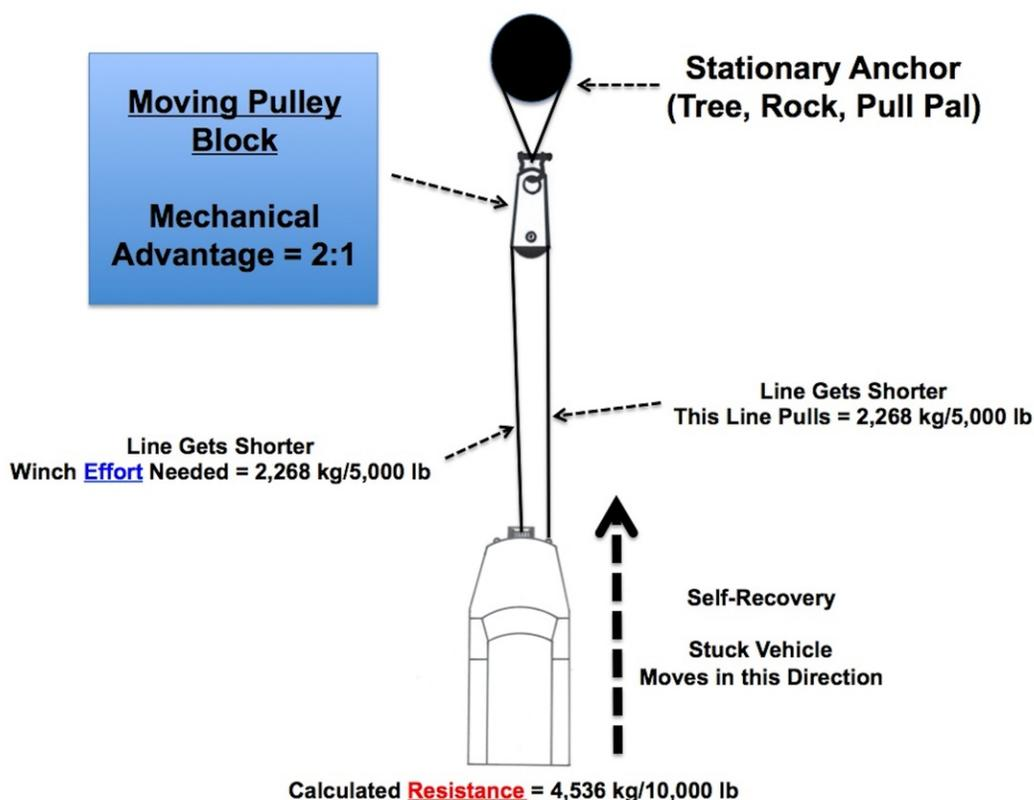

FIGURE 1
**Figure 1** shows a typical double line winch pull. This simple rigging set-up is often used by recreational off-roaders to get unstuck and self-recover. To determine the mechanical advantage of a simple, single-line winch-rigging set-up, you only have to:
In **Figure 1** the vehicle’s winch pulls the vehicle toward the stationary anchor, causing two lines to get shorter in the same direction. Another way of thinking is that two winch lines actually pull the stuck vehicle. This means that this rigging set-up has a 2:1 mechanical advantage. If the vehicle’s winch has a